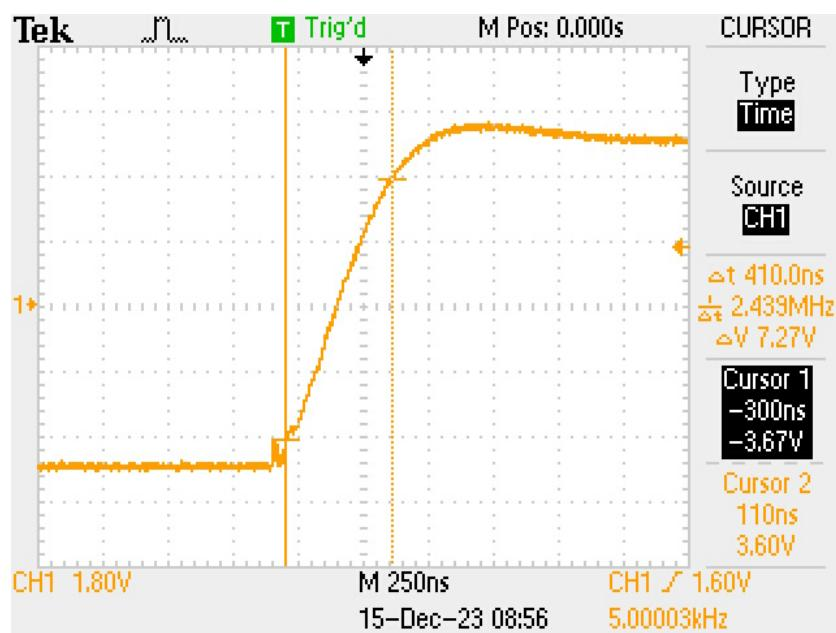

Figure 1.16: Rise Time Measurement
4. Zoom in on the rising edge of the waveform, see Fig 1.16
5. Measure the rise time at the -2 divisions (10%) and +2 divisions (90%), see Fig 1.16.